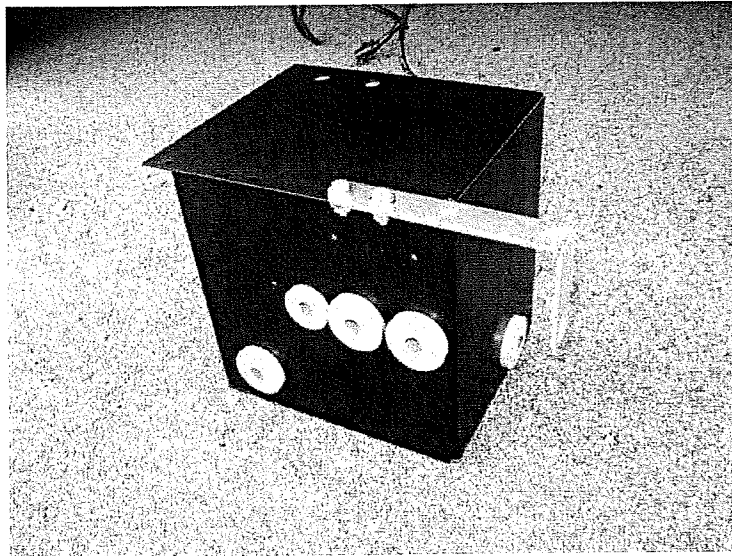

Figure 5
11. Remove the knock-out from the four (4) 40.2mm Grommets, TBB 160568 and one (1) 32.2mm Grommet, TBB 160567. Insert the grommets into the new enclosure, TBB 168247.
12. Bolt the Cable Support Bracket, 23-09130-029 to the flange at the top of the enclosure using four (4) Flat Washers, TBB 61370348, two (2) $\frac{1}{4}$ -20 Bolts, TBB 61370802, and two (2) $\frac{1}{4}$ -20 Lock Nuts, TBB 29940006. Leave the $\frac{1}{4}$ -20 nuts loose to ensure the enclosure mounting holes can be aligned during installation. **Figure 5**